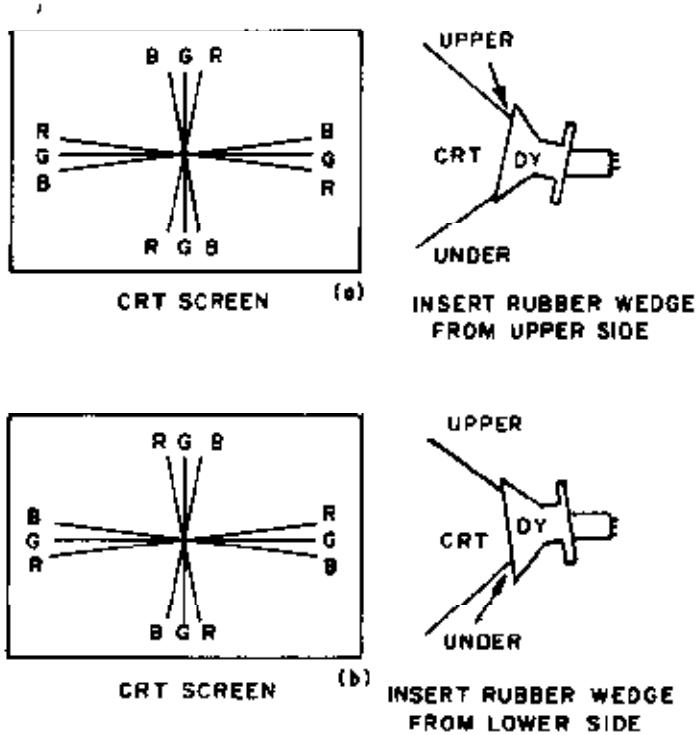

Figure 8 Adjustment of Red and Blue Beams During Dynamic Convergence
- 4.3 Tilt the angle of the yoke up and down to adjust the crossover of both vertical and horizontal red and blue lines. See figure 8 (a) and (b).